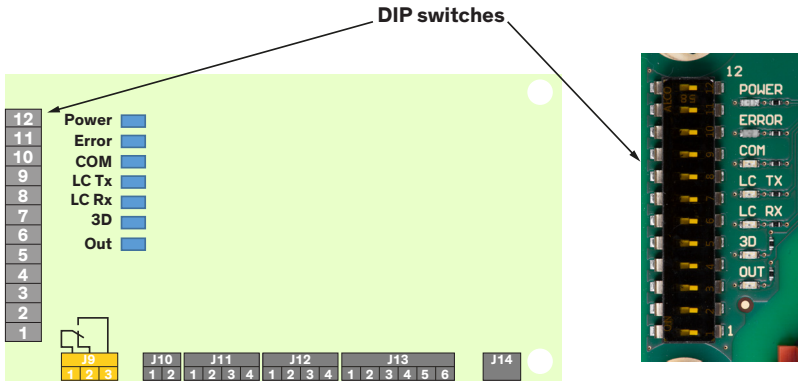

Figure 8: DIP switch location on sensor connection PCB and on the extension PCB
The cegard/Smart system is configured using twelve (12) DIP switches. The DIP switches are located on the sensor connection PCB as shown in Figure 8 below. For light curtain only (2D) operation, refer to Chapter 7.5.